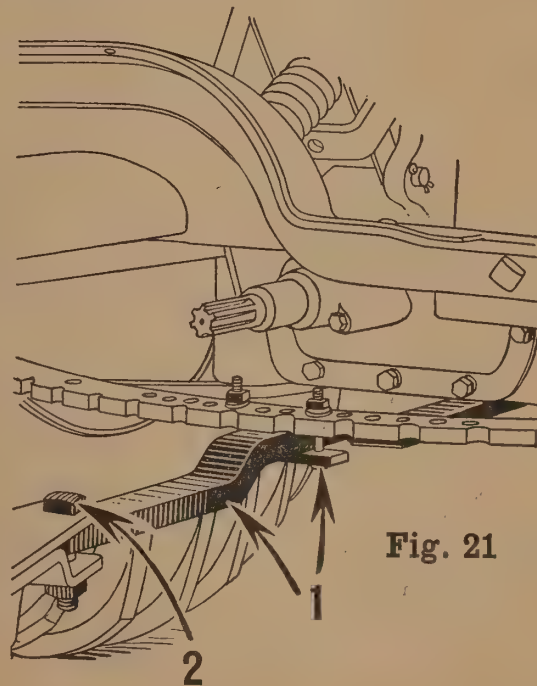

Fig. 21
1. (Fig. 21.) Remove swinging drawbar from tractor and replace with longer one furnished. Clamp drawbar in central position on drawbar guide as shown.
2. (Fig. 21.) Connect Binder to drawbar as shown.